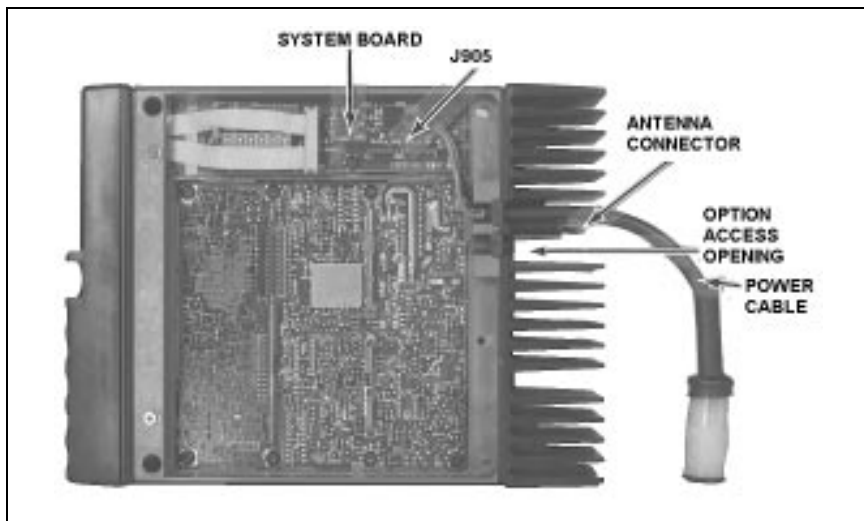

Figure 11 - Bottom View (Cover Removed)
3. Plug the Option Cable into J905A on the System Board and push the strain relief on the cable into the slotted opening. Refer to Figure 11.